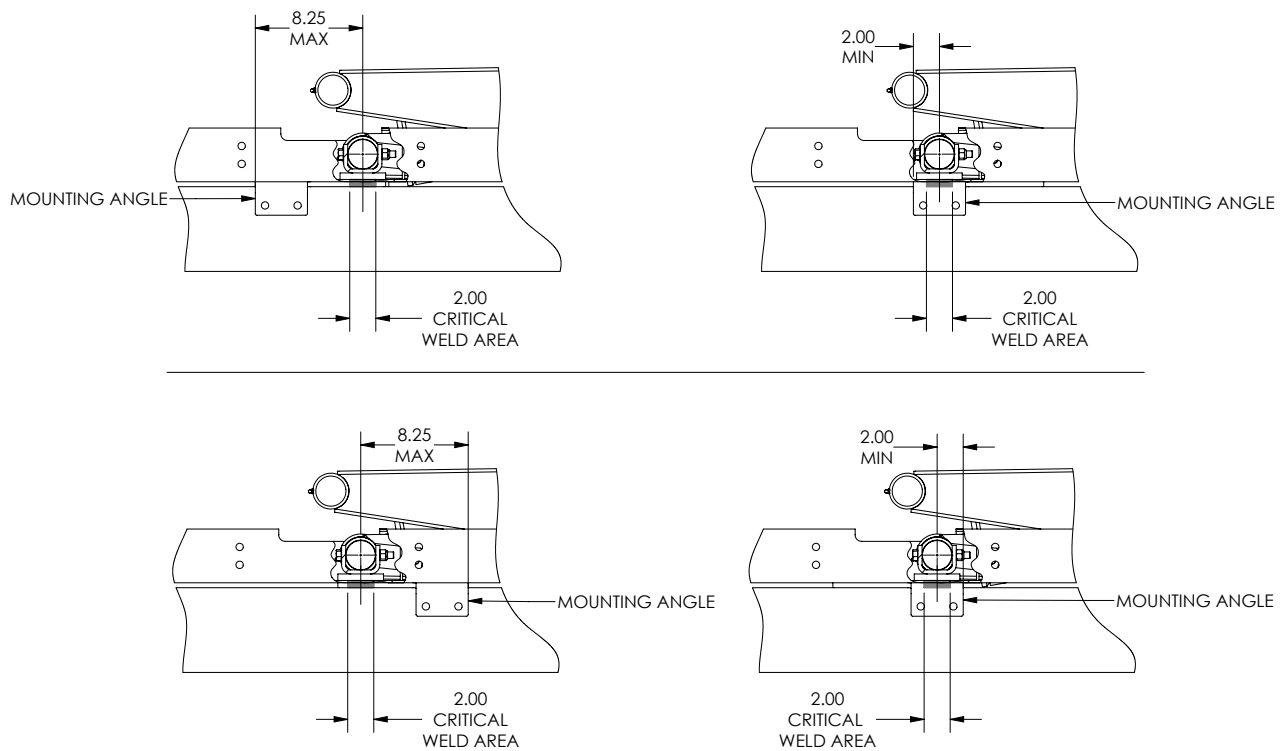

Figure 10
2. Locate the ideal mounting angle location along the chassis frame while keeping within the guidelines shown in (Figure 10). Ensure that the weld from the subframe to the mounting angle will be positioned directly below the saddle tube.